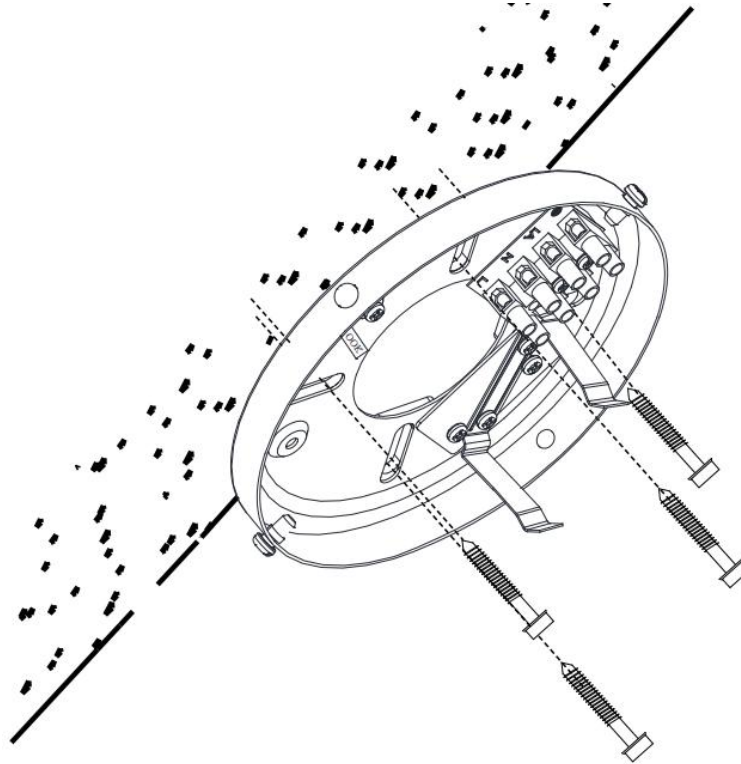

Fig. 3
- Install the mounting bracket to the sloped ceiling joist or structure that is capable of carrying a load of at least 4 times the weight of your fan, with 4 long screws provided. Ensure at least 30mm of the screw is threaded into the support. (Fig.3)
NOTE: Take note that when installing this mounting bracket, the screw and terminal block on the mounting bracket should face the top. (Fig.3)